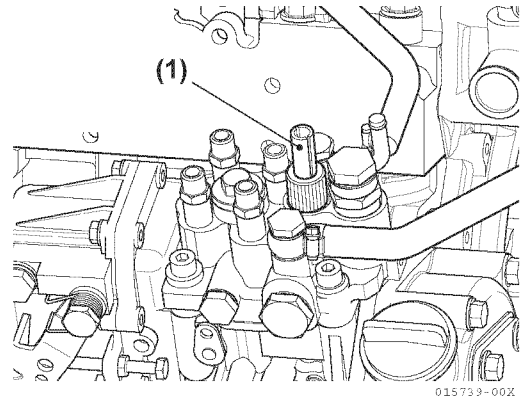
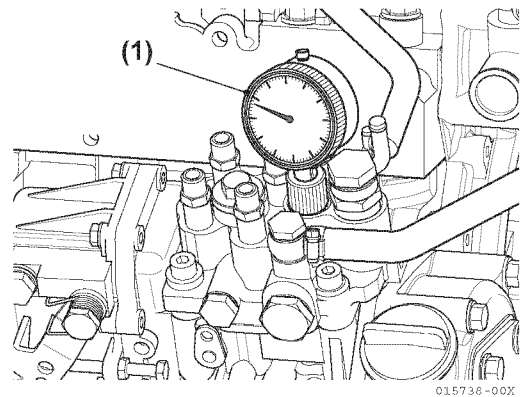

Figure 6-82
Figure 6-83
Note: Use the Yanmar part no. 158090-51831 M14 adapter for the MP2 fuel injection pumps and Yanmar part no. 23000-013000 plunger adapter clamp (**Figure 6-82, (1)**).
5. Install a dial indicator (**Figure 6-83, (1)**), Mitutoyo P/N 2050SB or equivalent, with a 30 mm extension, Yanmar P/N 158090-51870 or Mitutoyo P/N 303613, into the adapter. Secure with the Yanmar P/N 23000-013000 plunger adapter clamp (**Figure 6-82, (1)**) at approximately the mid-point of its travel.